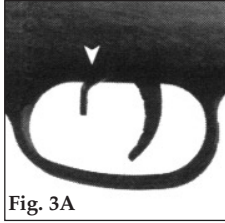
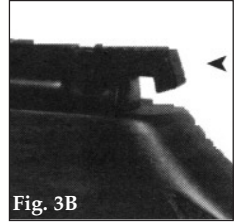

Fig. 3A
Fig. 3B
4. The automatic safety is now engaged (Note: some models only have a manual safety!). The safety may be located on the side of the receiver, the side of the air rifle, on or inside the trigger guard (Fig. 3A), or at the back of the airgun (Fig. 3B). To prepare to fire, move the safety forward to the "Fire" position. Some models have a button that must be pushed in for "Fire."